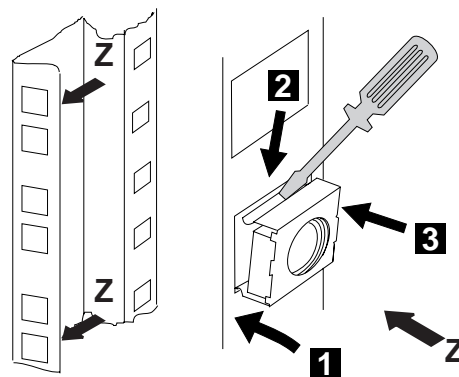

Figure 1-8. Installing the Captive Nuts for the 6275
3. \_\_\_\_ Refer to Figure 1-8 and install four captive nuts (PN 58G5766) on the left and right side of the controller expansion.